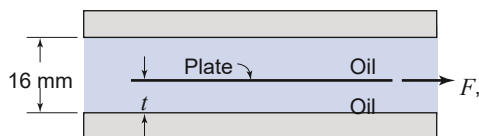

Figure X2.11.8
- 2.11.8** A space 16 mm wide between two large plane surfaces is filled with SAE 30 Western lubricating oil at 35°C (Fig. X2.11.8). What force  $F$  is required to drag a very thin plate of 0.4 m $^2$  area between the surfaces at a speed  $v = 0.25$  m/s (a) if the plate is equally spaced between the two surfaces, and (b) if  $t = 5$  mm? Refer to Appendix A.